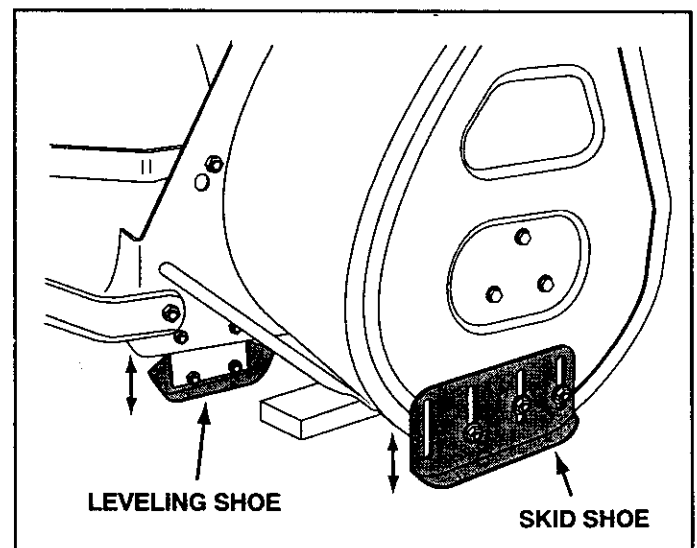

FIGURE 22
- To adjust the skid shoes, raise the snow thrower off the ground and place a block under each end of the scraper plate. Loosen the six hex nuts securing the skid shoes to the housing. Adjust the skid shoes up or down to the desired position and tighten the nuts securely. Both skid shoes should be the same height to keep the housing and the scraper plate level. See figure 22.
- The skid shoes may be turned to face either in or out. In order to obtain the lowest setting, where the scraper blade fully contacts the ground, the skid shoes must be facing out as shown in figure 22.
- Before adjusting the leveling shoes, make sure the skid shoes are properly adjusted. With the snow thrower in the lowered position, loosen the bolts which fasten the leveling shoes to the thrower and adjust the leveling shoes to solidly contact the ground. Retighten the bolts. See figure 22.